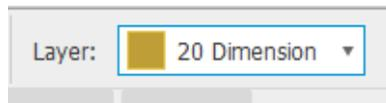

Figure 28 - Dimensions layer selected.
10. Set the active layer to the dimensions layer, as shown in **Figure 28**.